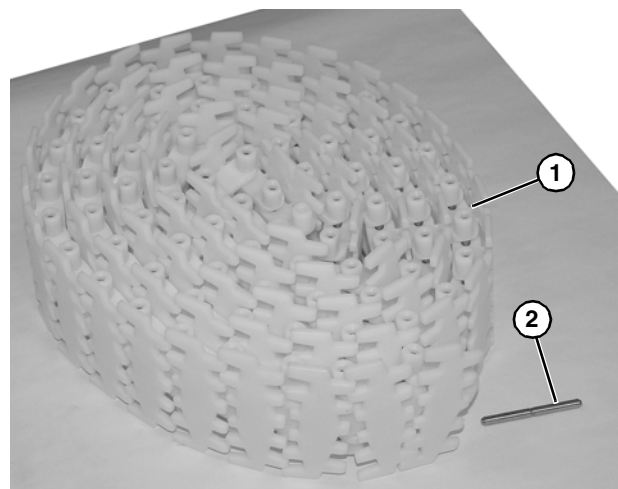

**Figure 17**
1. Fasten brackets (**Figure 17, item 1**) to support stand (**Figure 17, item 2**) with mounting screws, washers, and nuts (**Figure 17, item 3**).